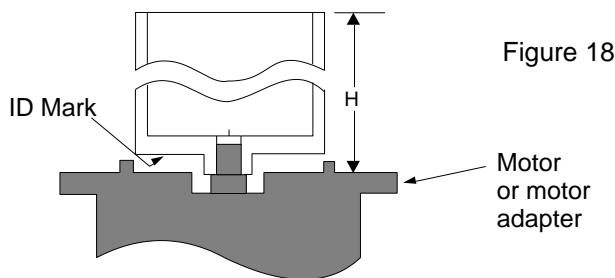

Figure 18
4. Use the following table [Fig. 18] for correct placement of the drive magnet.
5. Mount and bolt the frame (19) to the motor. . (Check orientation/label)
6. Mount and secure the drive magnet (232) to the motor shaft. [Fig. 18] \*Note: Use Loctite 242 (thread locker) and torque the set screws to 8.9 ft-lbs (12 Nm).